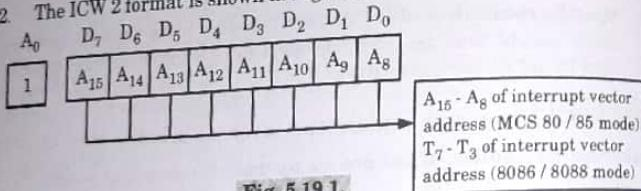

Fig. 5.19.1.
2. The ICW 2 format is shown in Fig. 5.19.1.